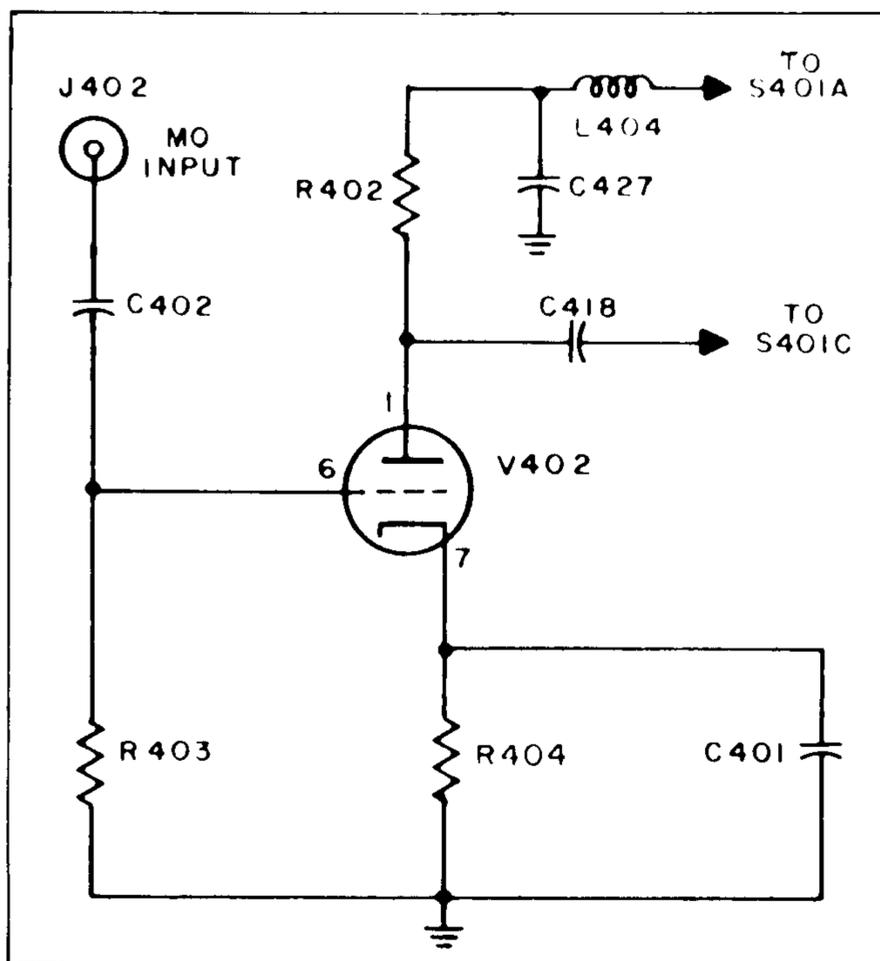

Figure 4-4. Buffer Stage, Simplified Schematic Diagram
(4) BUFFER. - Tube V402 is provided as a buffer at the output of the master oscillator circuit for additional isolation. (See figure 4-4.) Tube V402 is connected as a broadband amplifier. Coil L404 is used as a B+ filter with capacitor C427 as a B+ bypass. The output of V302B is applied through C402 to the grid. Cathode bias is developed by R406 and C401. The output from the plate is coupled through capacitor C418 to the input V403 through S401C when the switch is in the MO position.